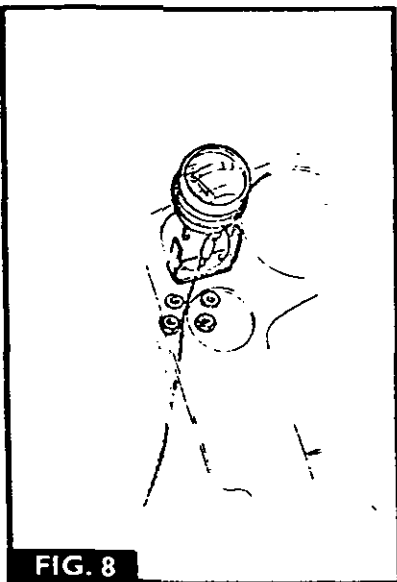

FIG. 8
3. Fig. 8. Remove the two nuts and spring washers securing the gauge to the bracket.